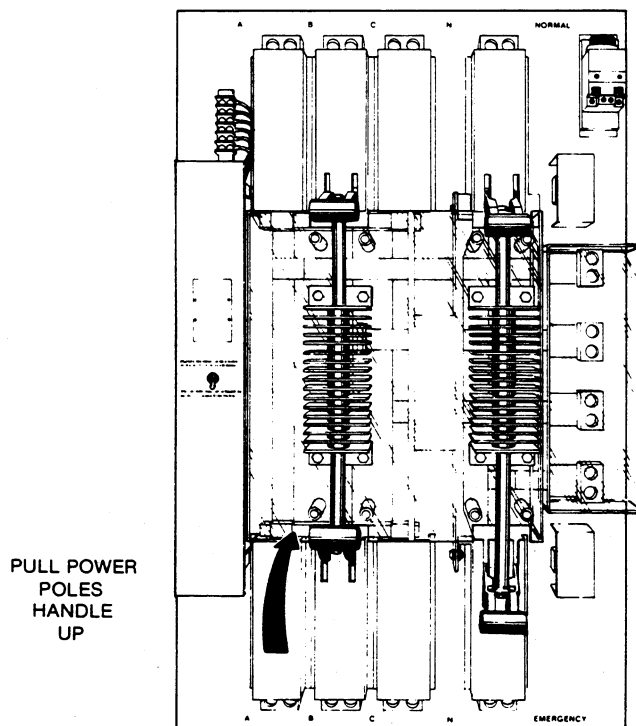

FIGURE 8.
1. Pull the lower power pole handle up, as illustrated in Figure 8, disconnecting the load from the emergency power source.